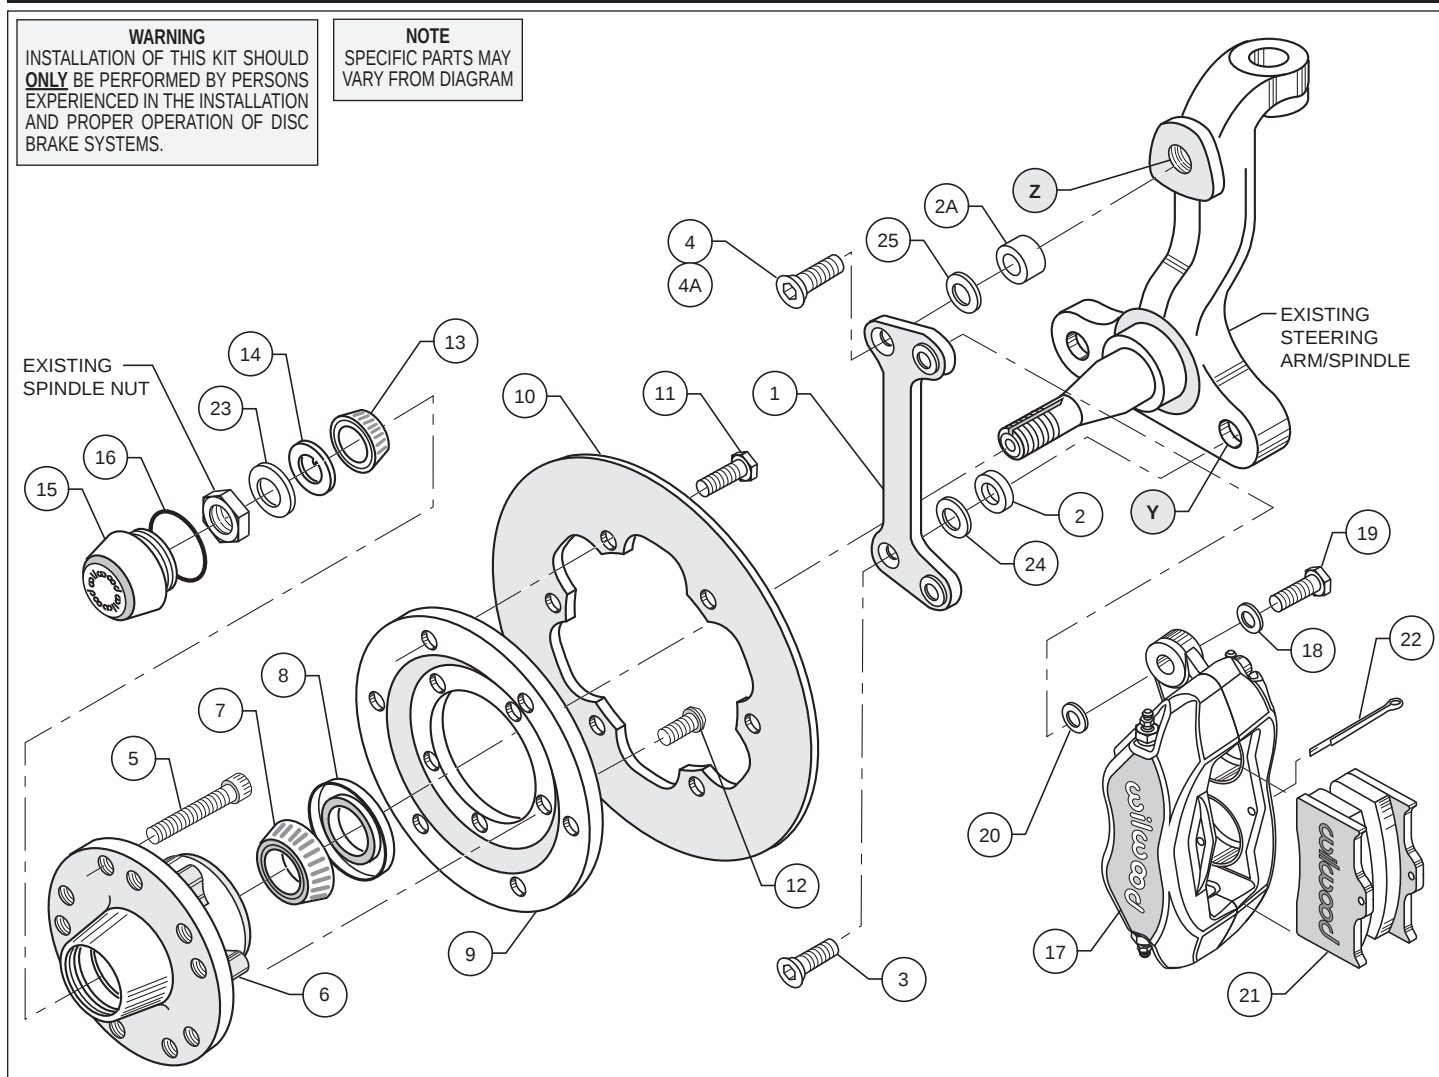
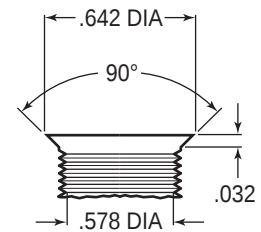
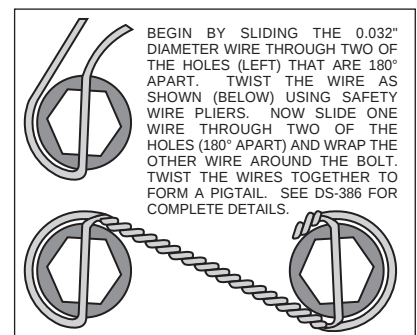

Figure 1. Typical Installation Configuration
Figure 3. Drill and Tap Detail
Figure 4. Safety Wire Diagram
- NOTE:** 1964-66 spindles may require the following modifications (reference Figure 1 and Figure 3): Top anchor pin hole (Z) must be drilled and tapped to the dimensions as outlined in Figure 3. Bottom rear steering arm bolt hole (Y) in the spindle and steering arm must be enlarged to .50" by drilling. A 1/2-20 backing nut (not supplied in kit) will need to be acquired to torque bracket / steering arm bolt (supplied in kit).
- Apply red *Loctite*® 271 to bolt threads (3 and 4, or 4A for disc spindle application) before assembly of the caliper mounting bracket (1). Mount bracket (1) to dust face plate of spindle using the bottom bolt (3) while positioning spacer (2) between bracket and spindle face, finger tighten only. Install the upper bolt (4, or 4A with spacer 2A positioned between bracket and top hole of spindle face), torque to 120 ft-lb. Torque bolts (3) to 77 ft-lb. **NOTE:** Be sure the heads of the bracket (1) insert nuts are facing outward toward the wheel. **NOTE:** Because of a tolerance variation among spindles, it may be necessary to install a shim washer (24 and/or 25) between the spacers (2 and/or 2A) and the bracket (1) in order to square the bracket to the rotor.
- Install wheel studs (5) into the hub (6). Torque to 77 ft-lb. **NOTE:** There are two five lug patterns in the hub (5 x 4.50 and 5 x 4.75). Make sure of the correct hole pattern for the correct wheel application before installing studs into hub.
- Pack the large inner bearing cone (7) with high temperature disc brake bearing grease (available from your local auto parts store) and install into the backside of the hub (6).
- Install the grease seal (8) by pressing into the backside of the hub (6).
- Attach rotor adapter plate (9) to rotor (10) using bolts (11). Apply red *Loctite*® 271 to threads and torque bolts (11) to 25 ft-lb. For an added measure of security, the bolts may be safety wired using standard 0.032 inch diameter stainless steel safety wire as shown in Figure 4. Refer to Wilwood's data sheet DS-386 (available at www.wilwood.com/Pdf/DataSheets/ds386.pdf) for complete safety wire installation instructions. **NOTE:** Dished side of adapter plate (9) should face hub (6). The counterbored side of the steel rotors (10) should face away from the adapter plate (9).
- Mount the adapter/rotor assembly (9/10) to the hub (6) using bolts (12) (finger tight), as shown in Figure 1. Using an alternating sequence, remove bolts one at a time, apply red *Loctite*® 271 to the threads, and torque to 55 ft-lb.
- Pack the small outer bearing cone (13) with high temperature disc brake bearing grease and install into front of hub (6). Slide the hub/rotor assembly (6 and 10) with outer bearing cone (13) onto the spindle. Secure using spindle washer (14), stock adjusting nut and nut locking device. Adjust bearings per Original Equipment Manufacturer (OEM) specifications.